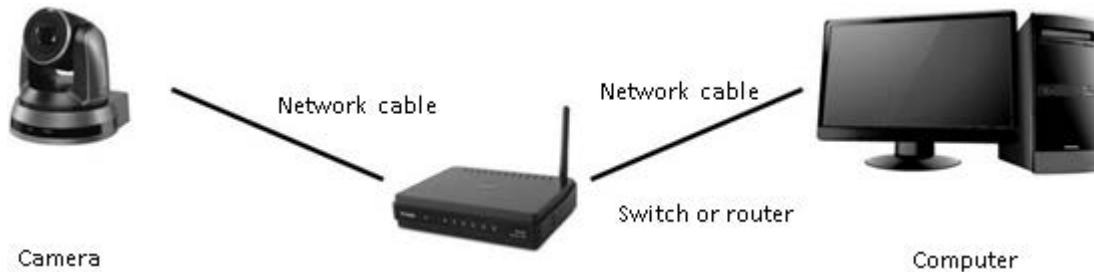

Figure 19 - Connecting over an IP Network
1. Connect a network cable between the camera and the network switch or router (Figure 19).